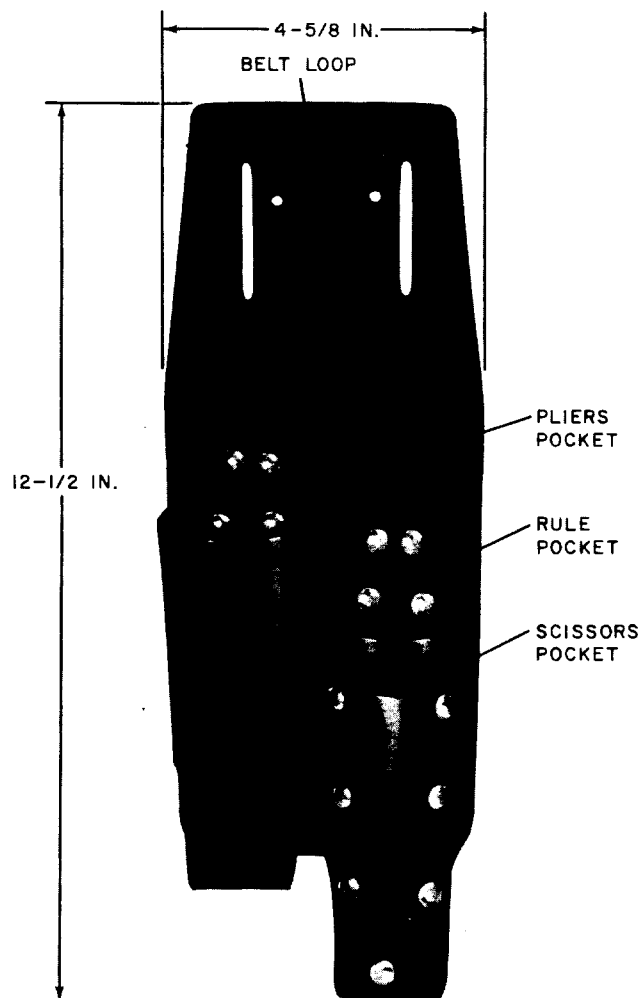

Fig. 1—D Holster (Right)
2.01 ♦The D Holster shown in Fig. 1 is a *right* holster for use with *right* body belts.♦ *Left* holsters for use with *left* body belts are also available. In each case the pliers pocket is located in the high position and to the rear of the rule pocket.